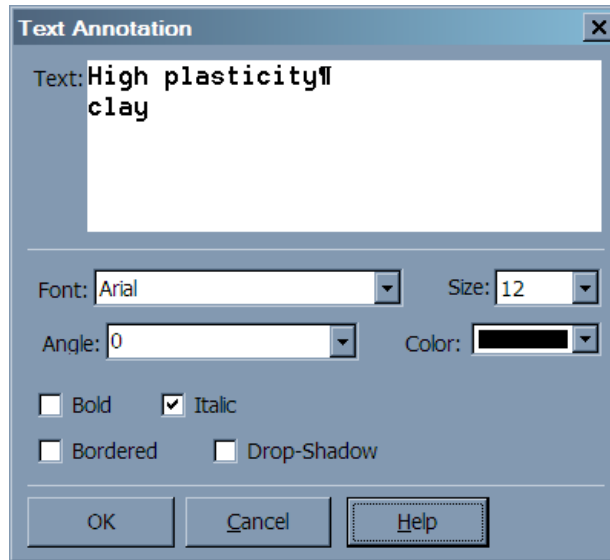

Figure 5.7: Text Annotation Dialog
1. Select Annotate > Add Text. (If you don't have an Annotate menu selection, refer to § 5.4 for a discussion on annotatable reports.) **LOGDRAFT** displays the Text Annotation dialog, shown in Figure 5.7.